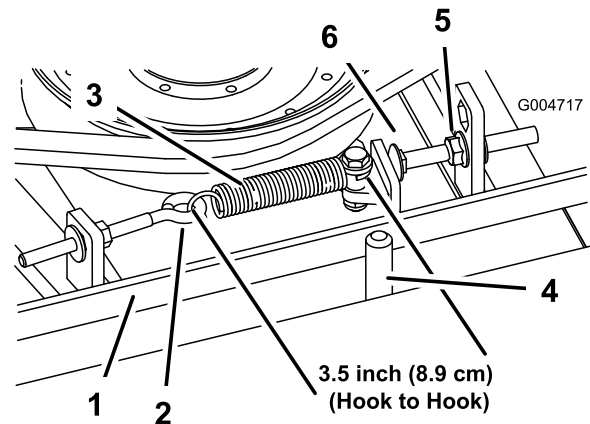

Figure 65
When properly tensioned, the extension spring (hook to hook) measurement should be approximately 3.50 \pm .25 inch (inside). Once the correct spring tension is attained, adjust the stop bolt (carriage bolt) until there is approximately .125 \pm .060/ \pm .000 inch clearance between the head of the bolt and the idler arm (Figure 65).
Note: Make sure the belt is positioned on the spring side of the belt guide (Figure 65).
2. Loosen the eye bolt allowing the removal of the extension spring (Figure 65).
3. Loosen the flange nut securing the stop bolt to the mounting tab. Back off the nut enough to allow the idler arm to pass by the stop bolt (Figure 65). Move the idler pulley away from the belt to release belt tension.
8. Reconnect the extension spring (Figure 65) to the eye bolt and tension the belt as follows: